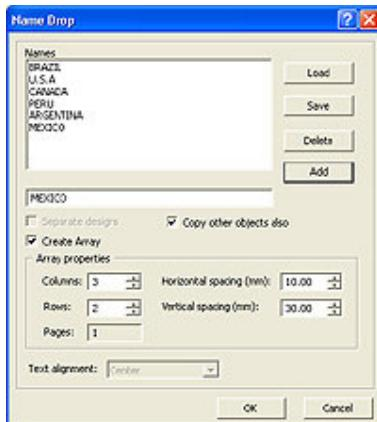

Figure 10.21: Step 4
4. Check the “Create Array” checkbox and the “Copy other objects also” (Figure 10.21) in order to create a table with all the name drops by copying also all the objects that are in the source design.